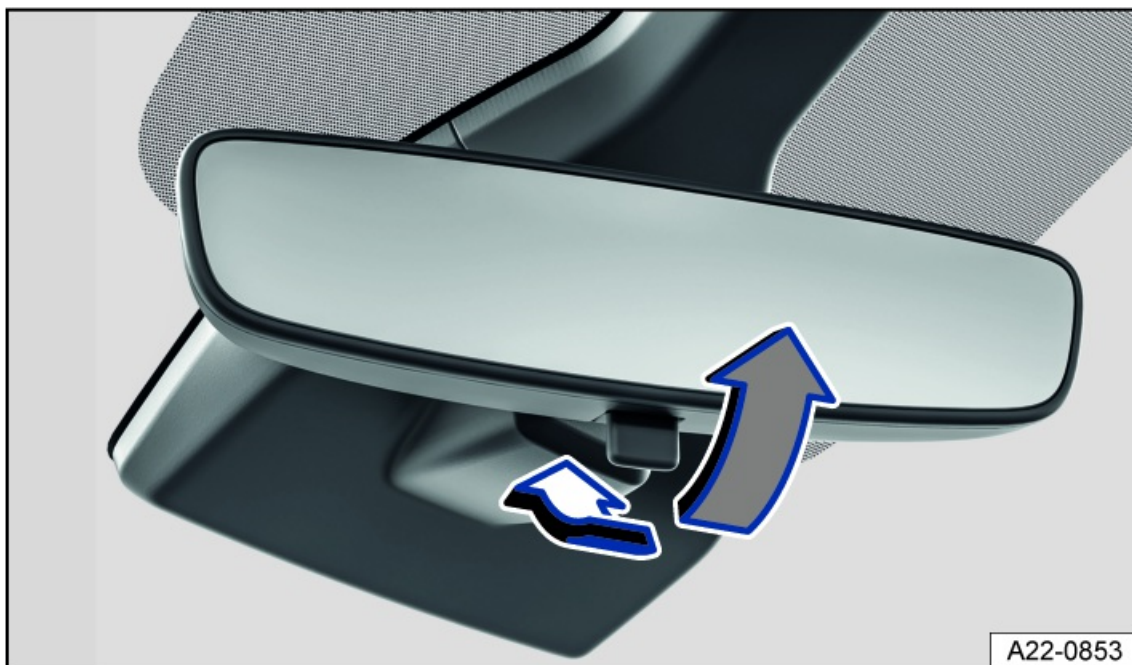

Fig. 86 On the windshield: manual dimming interior rearview mirror.
- To dim, pull the lever back fig. 86.